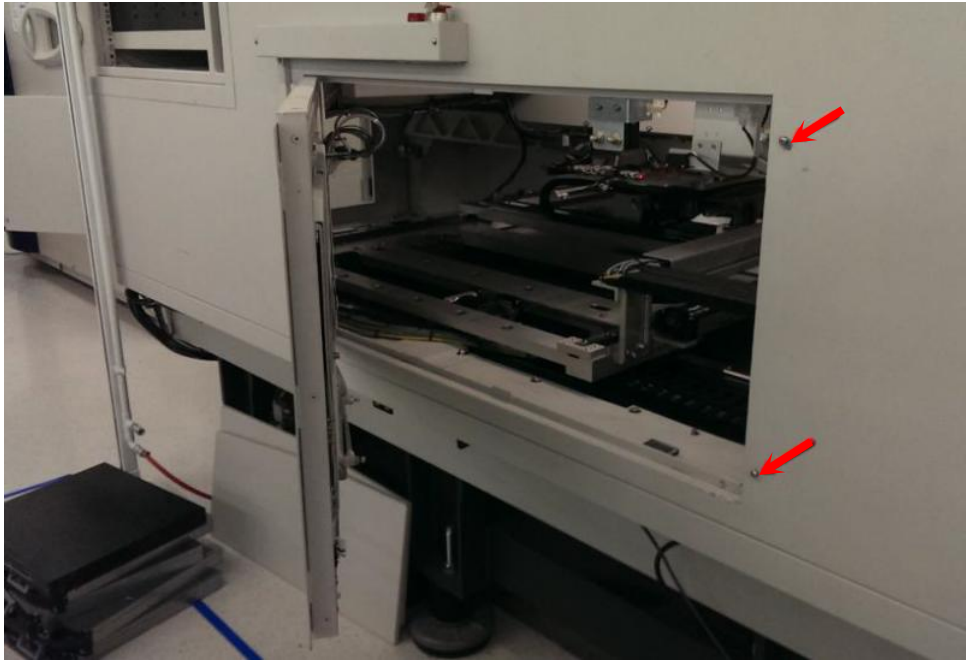

Figure 1 Left Outer Barrier (Open)
4. Loosen 2 x Tamper Proof screws as below Figure 1. Gently open left outer barrier